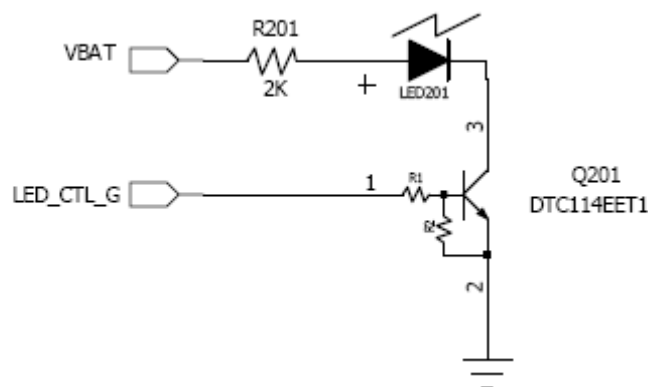

Figure 2-12 The reference circuit of LED control
The reference circuit for LED is shown in Figure 2-12.
- 1) The LED control pin (GPIO) controls the LED through a transistor, as is shown in Figure 2-12.
- 2) The reference value is 5mA. So the current-limiting resistor may be used. Just like the resistor R14 in Figure 2-12.